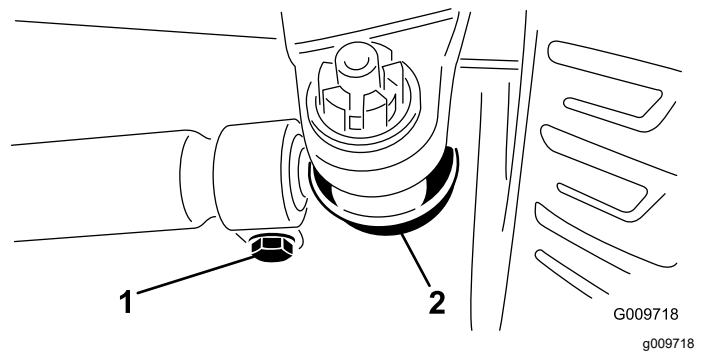

Figure 114
3. To adjust the toe-in, remove the cotter pin and the nut from either tie-rod ball joint (Figure 114).
5. Loosen the clamps at both ends of the tie rods (Figure 114).